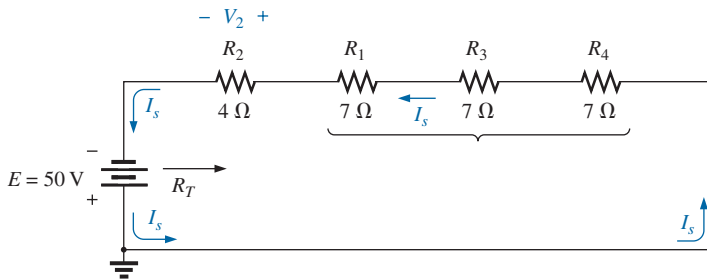

FIG. 5.17
- The elements of the circuit are rearranged as shown in Fig. 5.17.
- b. Note that because of the manner in which the dc supply was connected, the current now has a counterclockwise direction as shown in Fig. 5.17.
- c. The direction of the current will define the polarity for V_2 appearing in Fig. 5.17.